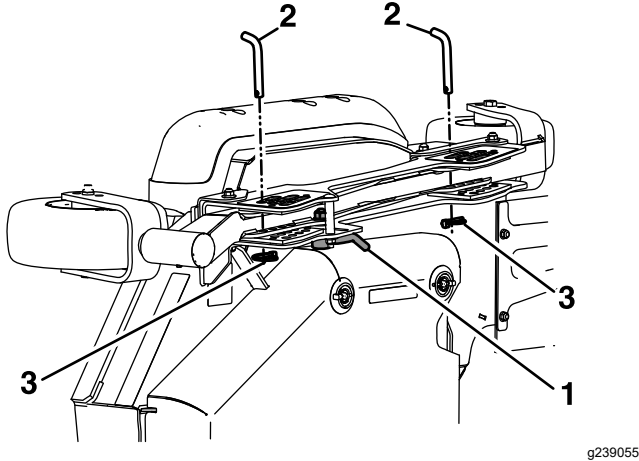

Figure 77
3. Unlock the left and right wing deck cam locks (Figure 77).
4. Remove and retain the wing deck height-of-cut lanyard (Figure 77).